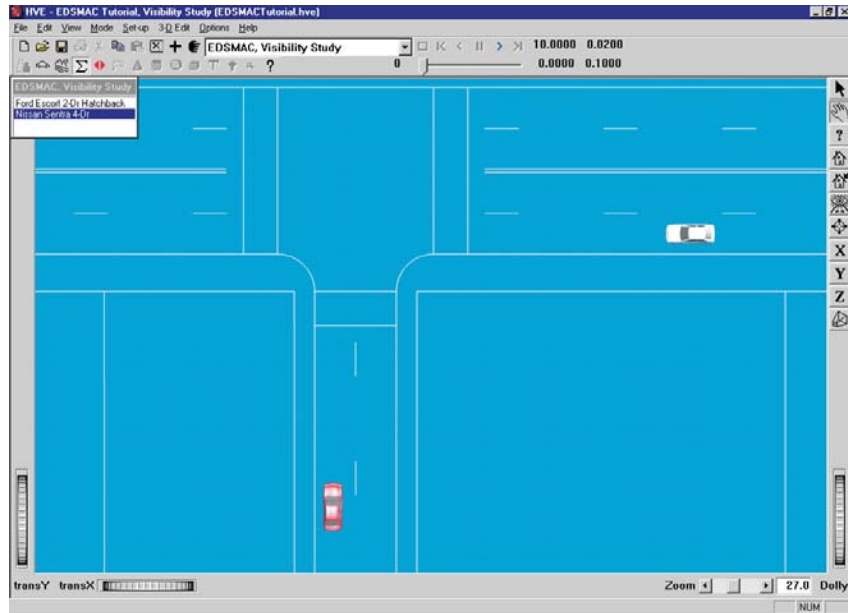

Figure 5-8 Overall view of the scene after event set-up is complete.
- Use the viewer controls (thumb wheels, zoom slider and direct *hand-in-viewer* manipulator) to set the view similar to that shown in Figure 5-8.